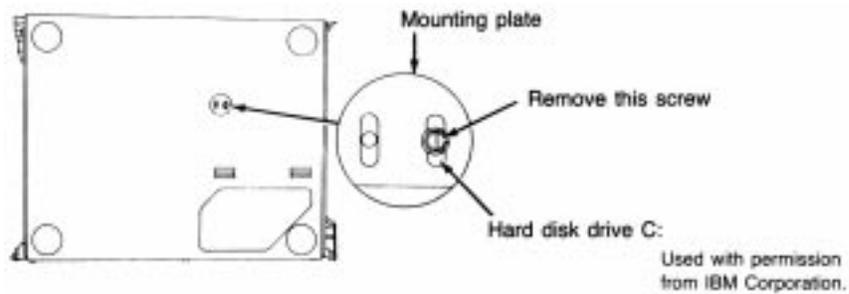

Fig. 3.3
1. Some systems have drive retaining screws on the bottom of the chassis. Lift up the front of the chassis so that the unit stands with the rear of the chassis down and the disk drive facing straight up. Locate any drive-retaining screws in the bottom of the chassis and remove them. On IBM equipment, you find these screws in XT systems with hard disks or half-height floppy drives (see fig. 3.3). These screws